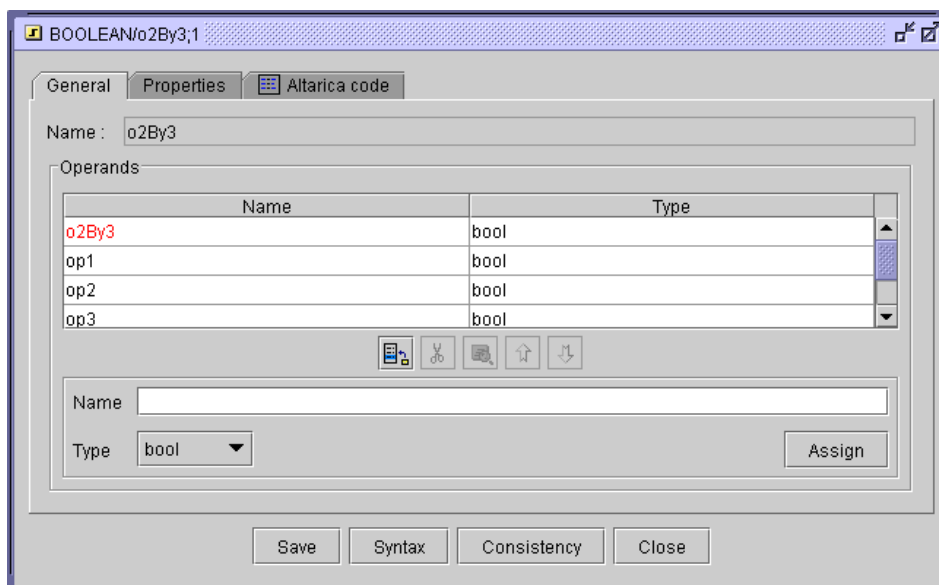

Figure 94 : Operator editor - General tab
- The window *Operator editor* (Figure 94) is displayed; it is composed of 3 tabs :
In the **General** tab (Figure 94) carry out the following operations:
- When the reading is done, the operator edition window is display (Figure 94).